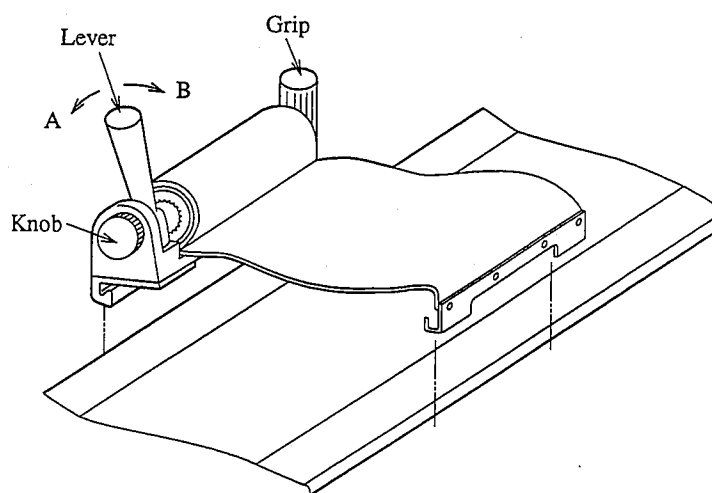

Fig. 3.5
3.6 Operation of the oppression Belt (Option) (Refer to Fig. 3.5.)